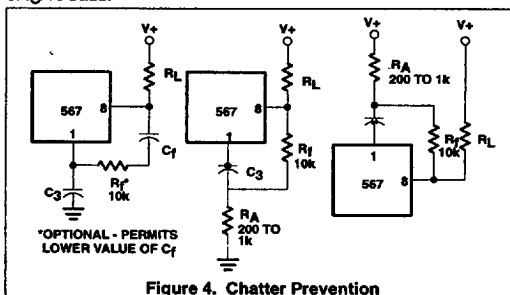

Figure 4. Chatter Prevention
**CHATTER PREVENTION** (Figure 4)
Chatter occurs in the output stage when  $C_3$  is relatively small, so that the lock transient and the AC components at the quadrature phase detector (lock detector) output cause the output stage to move through its threshold more than once. Many loads, for example lamps and relays, will not respond to the chatter. However, logic may recognize the chatter as a series of outputs. By feeding the output stage output back to its input (Pin 1) the chatter can be eliminated. Three schemes for doing this are given in Figure 4. All operate by feeding the first output step (either on or off) back to the input, pushing the input past the threshold until the transient conditions are over. It is only necessary to assure that the feedback time constant is not so large as to prevent operation at the highest anticipated speed. Although chatter can always be eliminated by making  $C_3$  large, the feedback circuit will enable faster operation of the 567 by allowing  $C_3$  to be kept small. Note that if the feedback time constant is made quite large, a short burst at the input frequency can be stretched into a long output pulse. This may be useful to drive, for example, stepping relays.